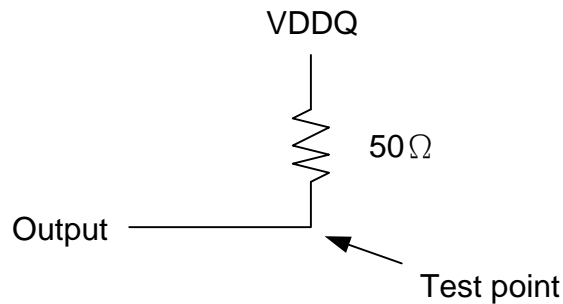

Figure 2: Pulldown slew rate test load
- b. Pulldown slew rate is measured under the test conditions shown in Figure 2.